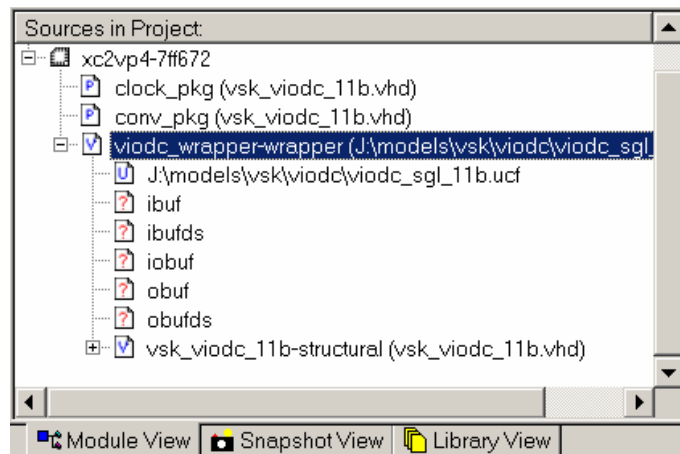

Figure 7-5: Project Navigator Source File View
5. Select that entity (already done in ISE 8.2) and double-click on **Generate Programming File**. This will take a few minutes. The project tree will look similar to Figure 7-5.